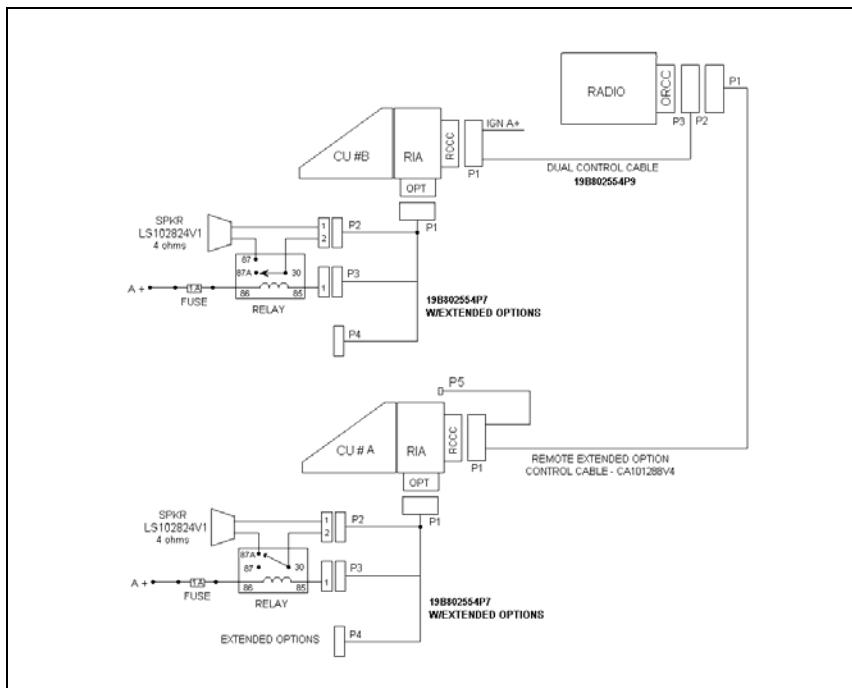

Figure 11-9: M7100 Dual Control Unit Remote/Remote Mount Installation Configuration
1. Referring to Figure 11-9, run the Remote Control Cable (CA101288V4) between locations for the Radio Unit and Main Control Unit.
- B. Hardwire each speaker directly (without relays) as shown in Figure 11-9.
11. Main Control Unit Speaker: Connect the lead nearest the speaker to **Pin 87** of the relay. Connect the lead nearest the connector to Pin 30 of the relay. Connect connector to the accessory cable P2 (refer to Figure 11-9).
12. Auxiliary Control Unit Speaker: Connect the lead nearest the speaker to **Pin 87A** of the relay. Connect the lead nearest the connector to Pin 30 of the relay. Connect the connector to accessory cable P2 (refer to Figure 11-9).
13. For Each Relay: Connect a #18 AWG black wire between the relay, Pin 85 and accessory cable P3-1 (labeled **“OUT2”** on schematic diagrams in the maintenance manual). Use a 1/4" tab receptacle on the relay side and a mating Molex connector and pins on the accessory cable side. Connect the mating Molex connector to the accessory cable P3 when finished (refer to Figure 11-9).
14. For Each Relay: Connect one end of a #18 AWG red wire to the relay, Pin 86. Cut the lead to length, and connect the other end to the 1 amp fuse holder supplied. Use crimp on connectors supplied. Connect the other side of the 1 amp fuse holder to the A+ battery source or a vehicle A+ fuse block. Use a #18 AWG red wire and a ring lug supplied, if needed (refer to Figure 11-9).